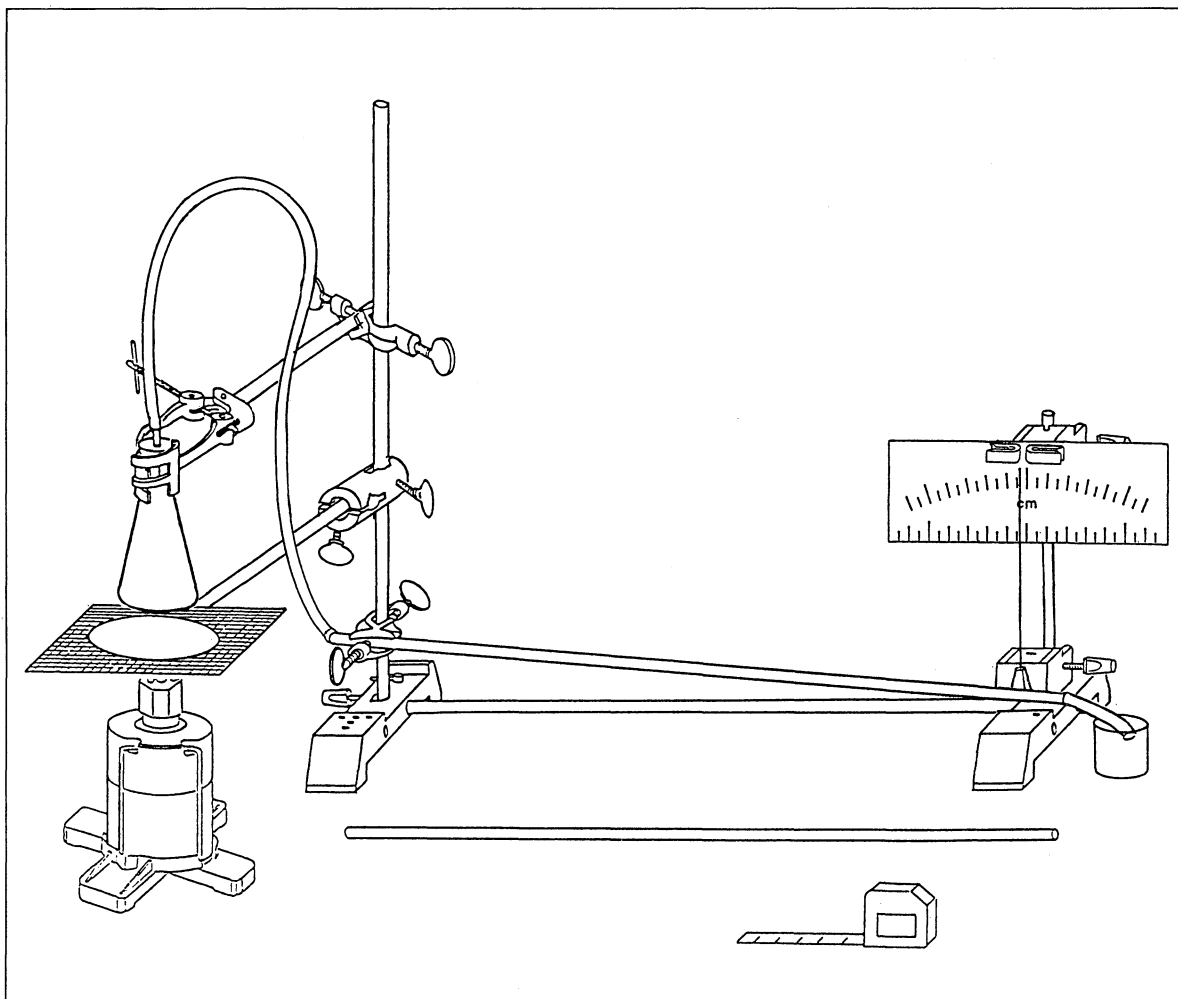

Fig. 1 Setup for investigating linear (thermal) expansion
1. Set up the stand as shown in fig. 1.